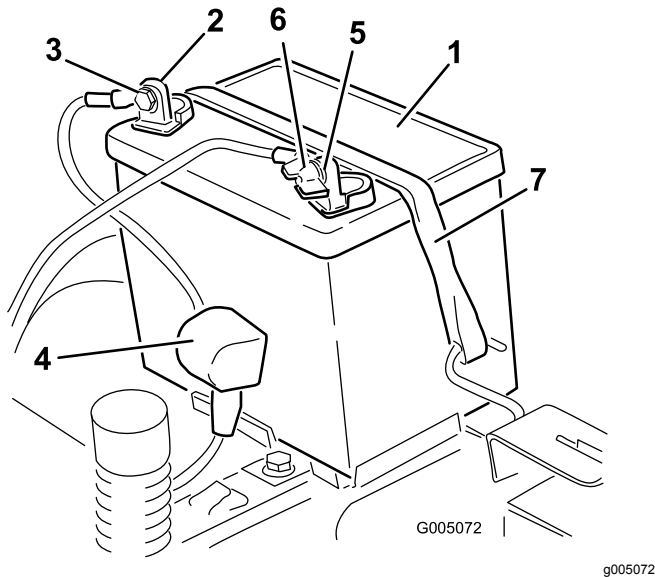

Figure 39
4. Disconnect the negative (black) ground cable from the battery post (Figure 39). Retain all fasteners.
5. Slide the rubber cover up the positive (red) cable. Disconnect the positive (red) cable from the battery post (Figure 39). Retain all fasteners.
6. Remove the battery hold-down (Figure 39) and lift the battery from the battery tray.
1. Position the battery in the tray (Figure 39).
5. Secure the battery with the hold-down (Figure 39).